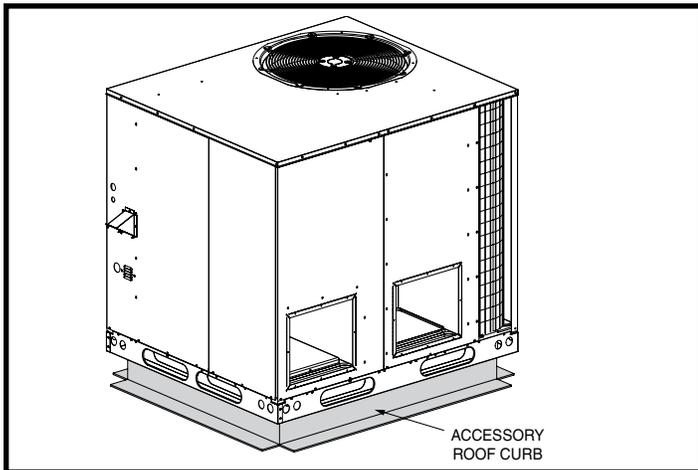

Figure 4. Roof Top Installation
- The appropriate accessory roof curb must be installed prior to unit installation. The roof curb must be square and level to ensure proper condensate drainage. See Figure 4 (page 10). **Please follow all instructions provided with the kit.**